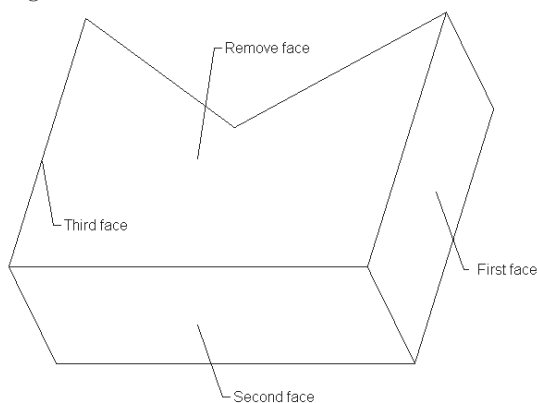

Figure 8-36 Faces of the model selected for variable thickness and the top face to remove
2. Select the top face of the model to remove it, as shown in Figure 8-36.
4. Click in the **Non default thickness** collector and now select the adjacent faces that are shown in Figure 8-36. To select the second and successive faces, you need to use CTRL+left mouse button.